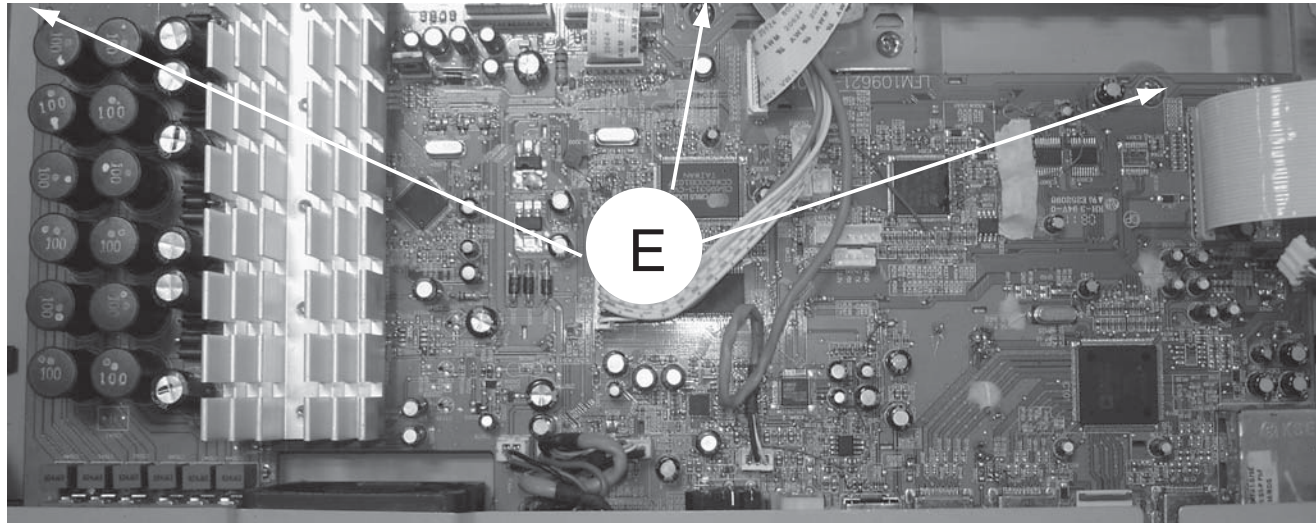

Figure 8
- 1) Loosen 3 screws "E" on the top of Main Board as shown in figure 8.